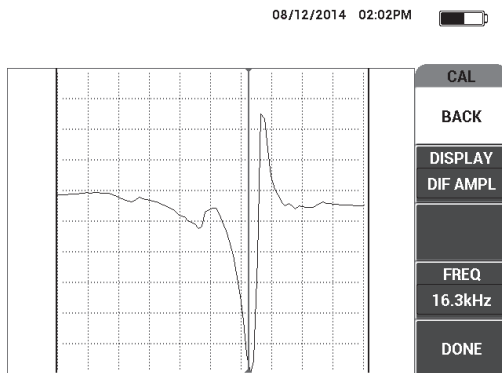

Figure 6-65 Selecting the best operating frequency
6. If necessary, select the best operating frequency for your needs by adjusting the **FREQ** (D key) using the knob (see Figure 6-65 on page 178).